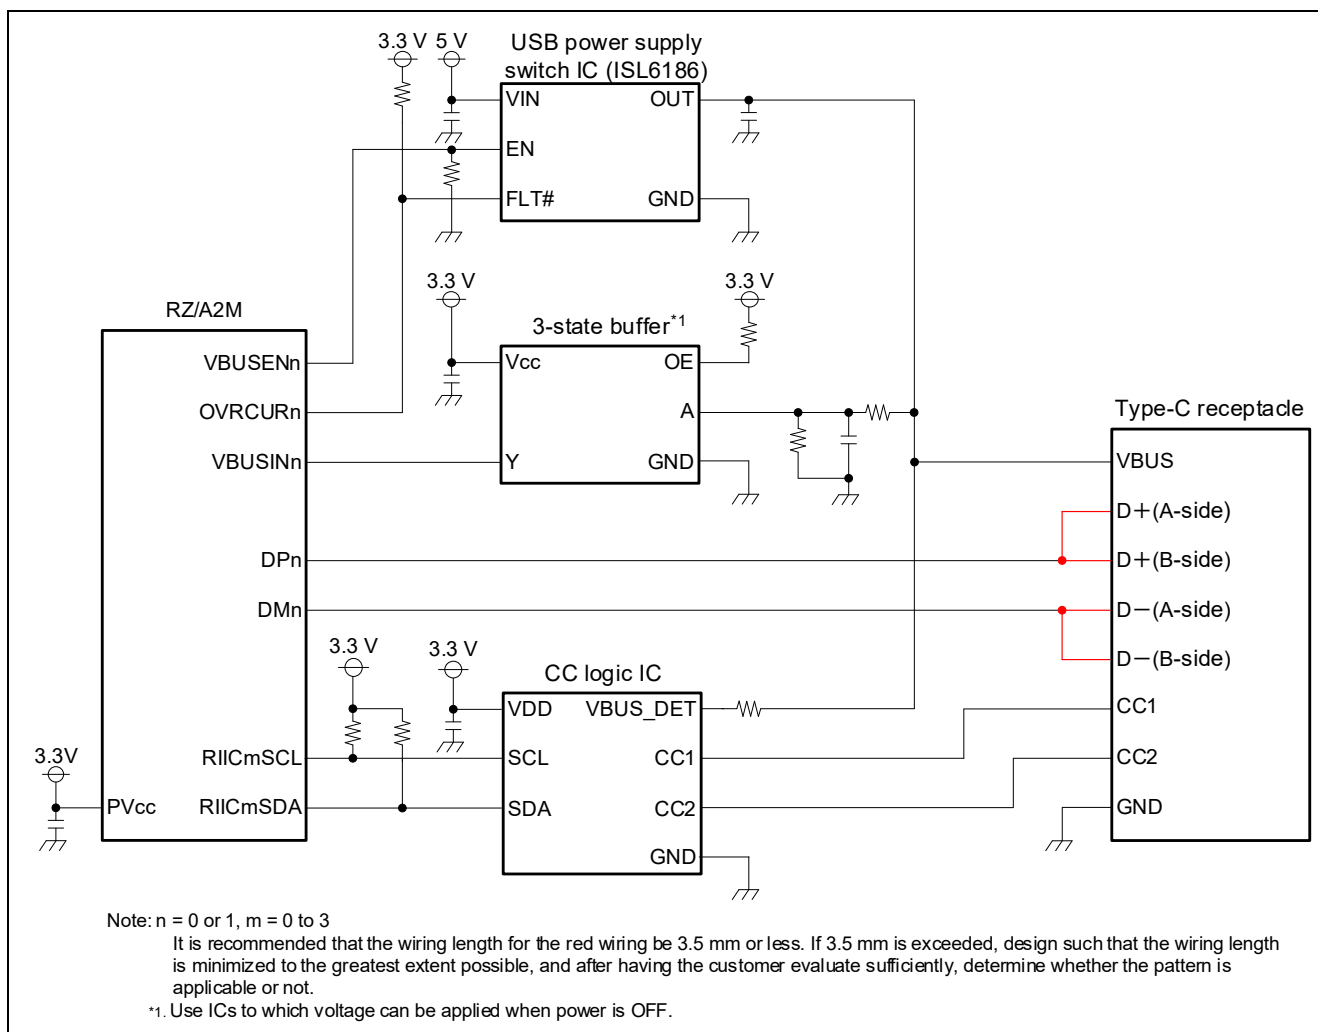

Figure 2.4 Example of connection to Type-C receptacle
2.3 shows an example of spacing between USB transmission line and ground guard ring. Figure 2.4 shows an example of connection when a Type-C receptacle is used.